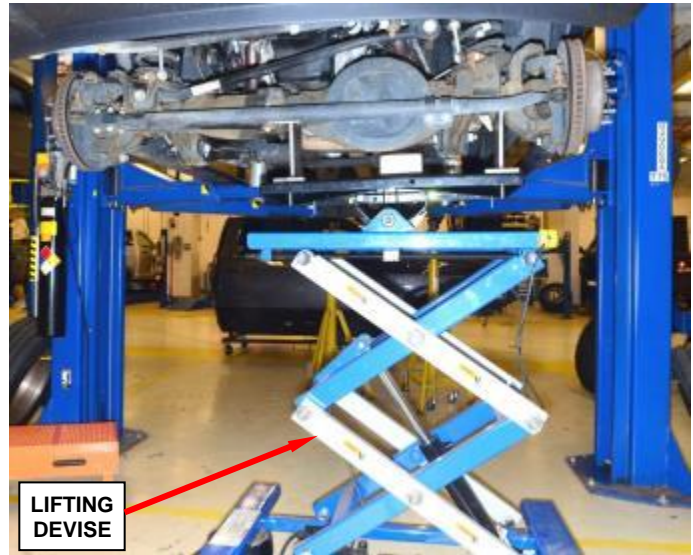

Figure 42 – Secure Axle to Lifting Device
14. Secure the front axle to a lifting device (Figure 42).